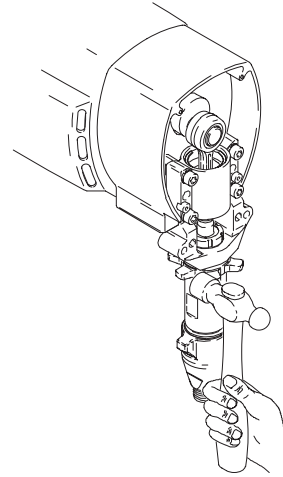

Fig. 22 7673A
4. Fig. 22. Loosen locknut by hitting firmly with a 20 oz (maximum) hammer. Unscrew pump.